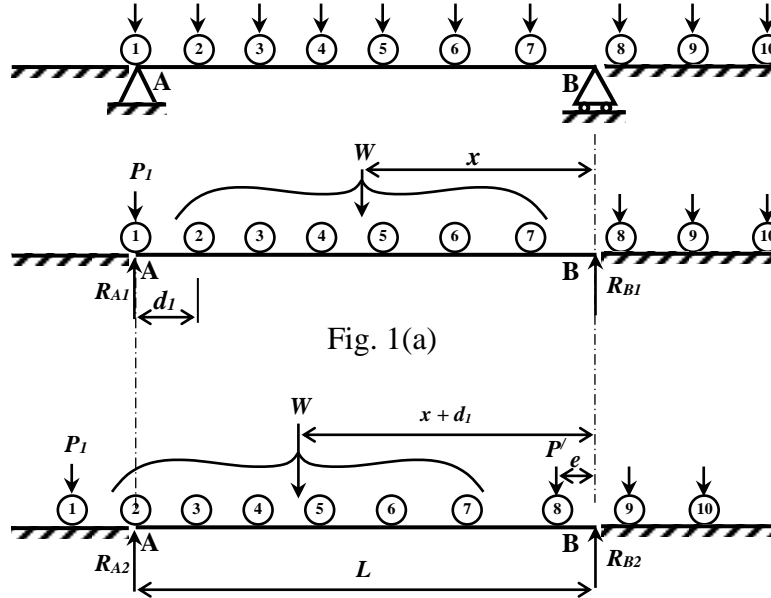

Fig. 1(a)
From Fig. 1(a), before the movement of wheels,
From Fig. 1(b), after the movement of wheels,
**N.B.** In the above expression,  $P_1$  is the first wheel as shown in Fig. 1. However, for the subsequent action wheel 2 must be replaced by  $P_1$ . Similarly,  $P_8$  is  $P'$  in the expression which is outside of span before movement and enters in the span after movement. The wheel 8 must be replaced by wheel 9. This procedure continues till the  $\Delta R$  changes its sign of character.